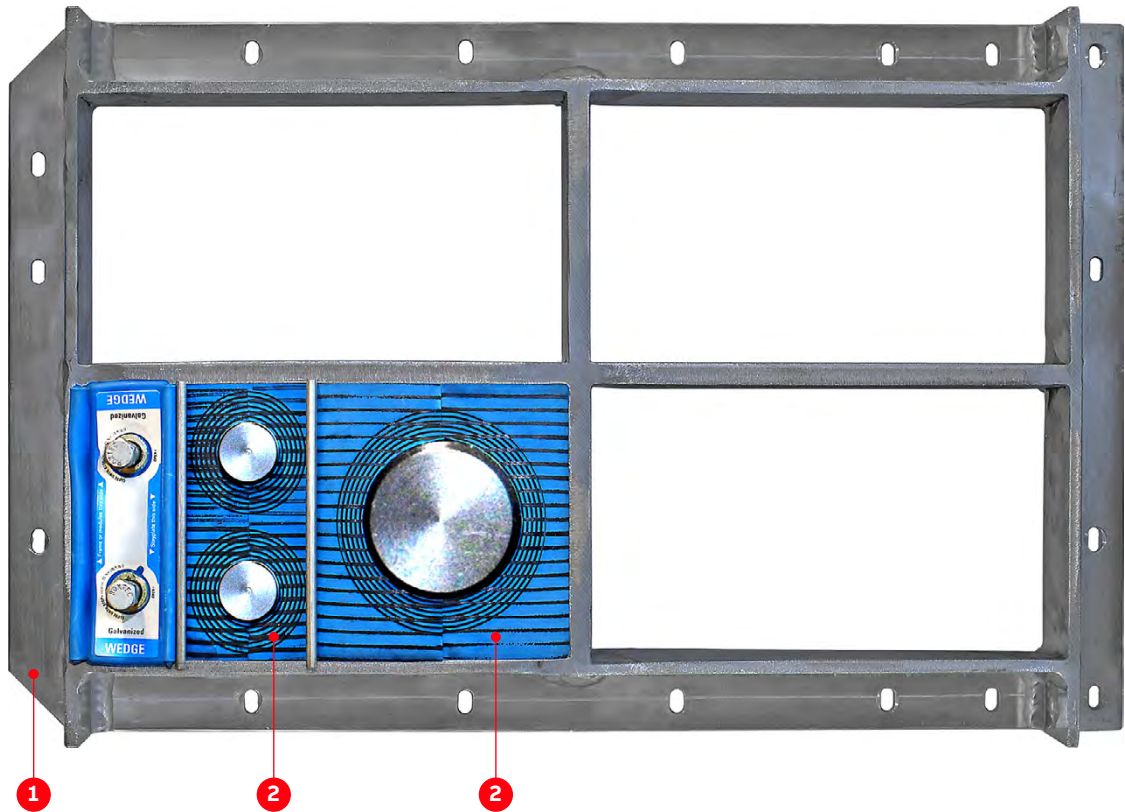

Figure 7-3: Type 1 sealing modules (example)
- **Included in delivery:** cable entry frame (1 in Fig. 7-3)
- **Not included in delivery:** sealing modules (2 in Fig. 7-3), accessories and tools